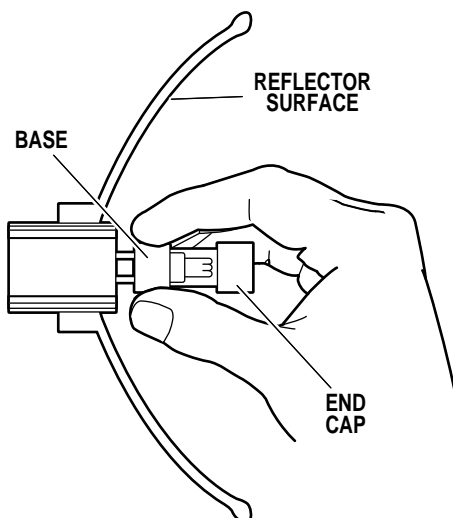

Figure 1-2.
- b. Using caution not to touch the reflector surface, hold the bulb by the base and pull it out. See figure 1-2. Slightly working the bulb back and forth may aid in bulb removal.